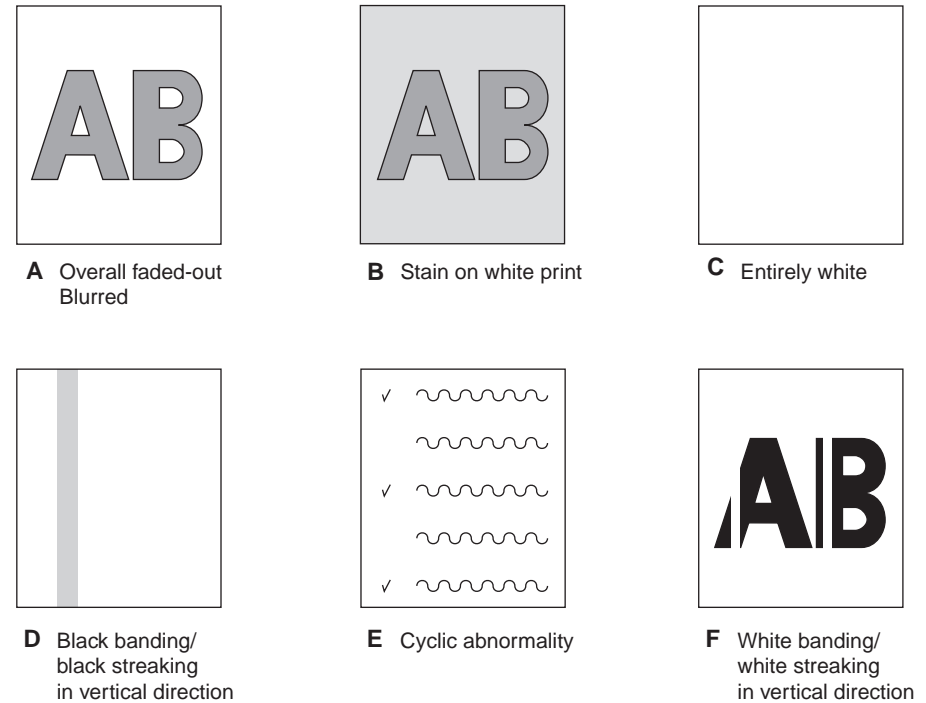

Figure 8-2
- (1) Color has faded-out and blurred entirely. (Refer to Figure 8-2 A.)8-60
- (2) Stain on white print. (Refer to Figure 8-2 B.).....8-61
- (3) White print (Refer to Figure 8-2 C.).....8-62
- (4) Black banding/black streaking in vertical direction.....8-63
- (4-1) Thin vertical line (with color) (Refer to Figure 8-2 D.).....8-63
- (4-2) Thin vertical line (without color) (Refer to Figure 8-2 F.).....8-63
- (5) Periodic abnormalities (Refer to Figure 8-2 E.).....8-63
- (6) Significant color misregistration8-64
- (7) Solid black printing.....8-64
- (8) Getting only monochrome printing or no printing.....8-65
8.5.3.(1) Color has faded-out and blurred entirely. (Refer to Figure 8-2 A.)
8.5.3.(2) Stain on white print. (Refer to Figure 8-2 B.)
8.5.3.(3) White print (Refer to Figure 8-2 C.)
(4-1) Thin vertical line (with color) (Refer to Figure 8-2 D.)
(4-2) Thin vertical line (without color) (Refer to Figure 8-2 F.)
8.5.3.(5) Periodic abnormalities (Refer to Figure 8-2 E.)